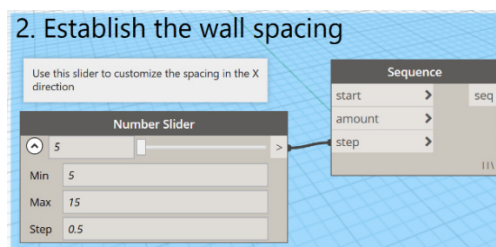

FIGURE 42
23. Rename the group: **2. Establish the wall spacing** (see Figure 42).